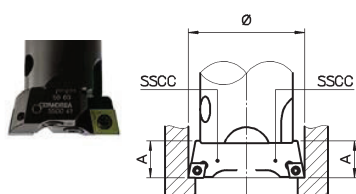

fig.1
- (fig. 1) two SSCC bit holders on the same plane and with the two cutting edges set at identical radial distance for high feed rate roughing operations.